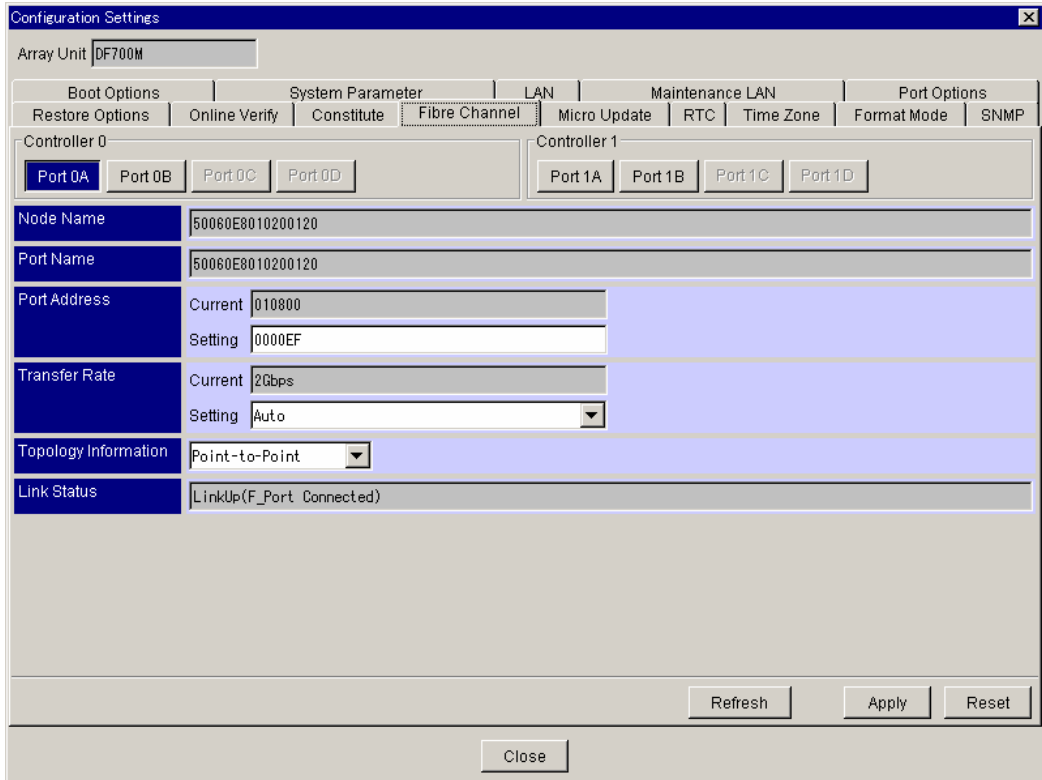

Figure 5.69 Setting Fibre Channel Information
3. Click the **Fibre Channel** tab (see Figure 5.69). For a detailed description of the **Fibre Channel** tab, refer to section 5.1.16.